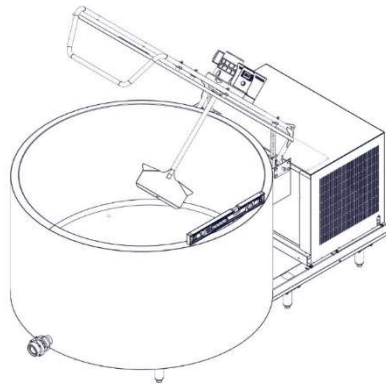

Figure 3: Tank leveling process. Stage 1A
1. Open the tank lid and place a spirit level on the rim of the vessel, as shown in Figure 3. Rotate the adjustable feet of the base until perfect alignment is achieved.